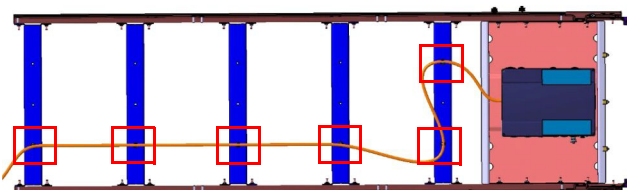

Fig. 817 Moving the 400V AC cable with fixing points
- Replace the plug-in holder for the 400V AC cable to the crossbars (Fig. 817).
- Lay the 400V AC cable according to Fig. 815 and Fig. 817 and attach to the traverses and compressor pan.